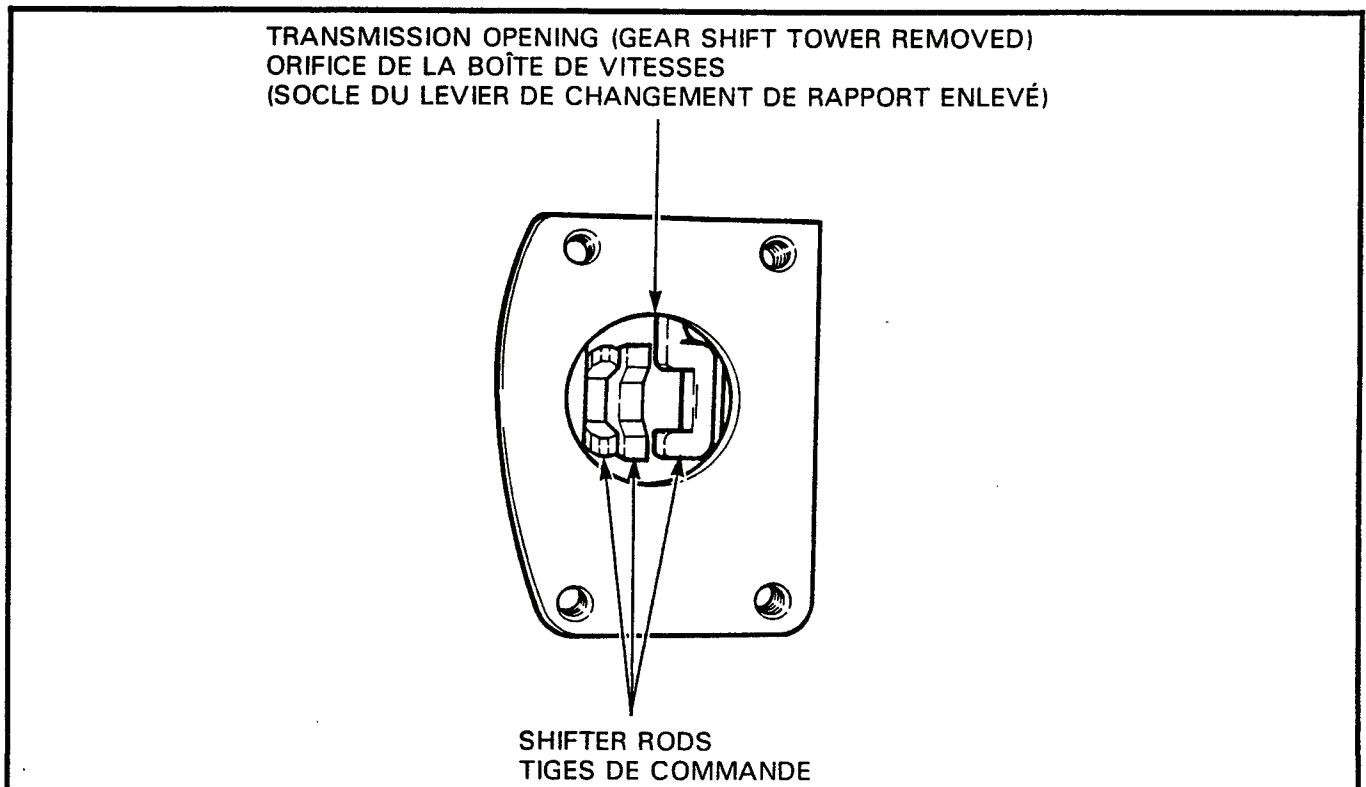

Figure 3-1-13 Neutral Alignment of Shifter Rods
- b. Ensure that the transmission is in neutral by aligning the three shifter rods, see Figure 3-1-13.
- b. S'assurer que la boîte de vitesses est au neutre en alignant les trois tiges de commande, voir figure 3-1-13.